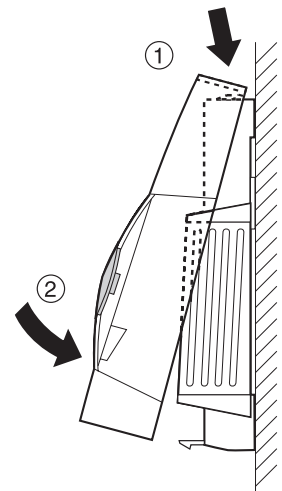

Fig. 14: Placing housing cover in position
- ▶ Place the housing cover in position above and snap it down (see Fig. 14).
- ▶ Place the housing cover in position above and snap it down (see Fig. 14, Page 8).